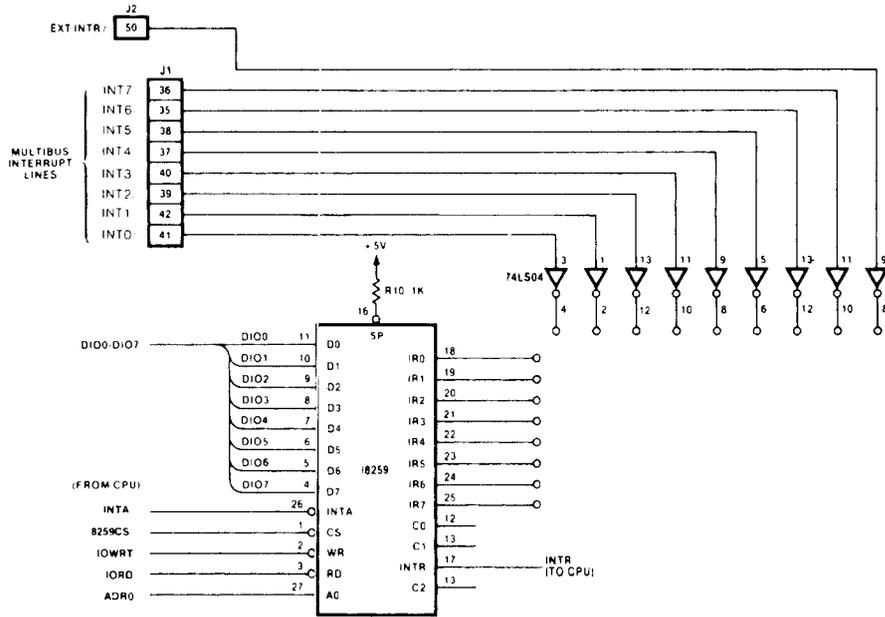

Figure 5-15. 8080/8085 Non Bus Vector Interrupt Logic
**5.1.4.1 Non-Bus Vectored Interrupts.** The NBV interrupt design example is given in Figure 5-15. The bus interrupt lines (INT0/-INT7/) are buffered by standard TTL receivers. The buffered interrupts go to optional jumpers which can be used to connect bus interrupt lines to different interrupt levels on the 8259/8259A. Once a bus interrupt line is activated, the 8259/8259A on the bus master will generate a local (internal) interrupt (INTR) to its CPU. The bus master will then generate local INTA's that will cause the local 8259/8259A to generate instruction data which will send the bus master to the appropriate address. The interrupt service routine will reset the interrupt with bus commands, as required by the interrupting source, and service the interrupt. This method limits the total number of bus interrupts a bus master can handle to eight.